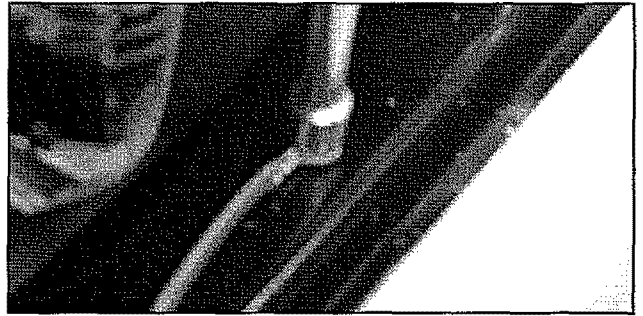

FIGURE 10
11. Un-screw ground wire. See Figure 10.